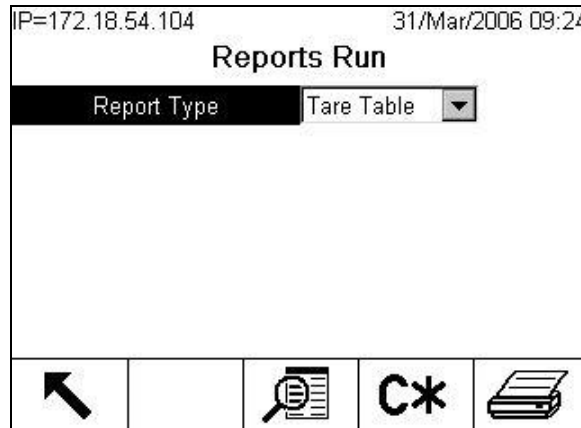

Figure C-16: Reports Run Screen with Clear Totals Softkey
1. Press the REPORTS softkey , select Tare Table from the selection box, and press the CLEAR TOTALS softkey **C*** seen in Figure C-16.